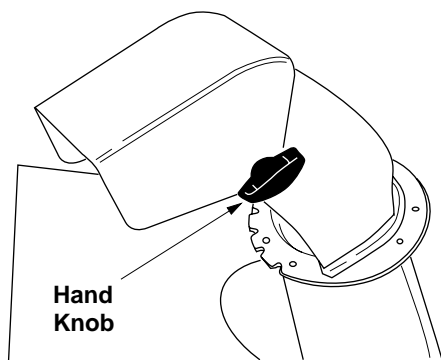

Figure 25
1. To adjust the chute, loosen the hand knob. See Figure 25.